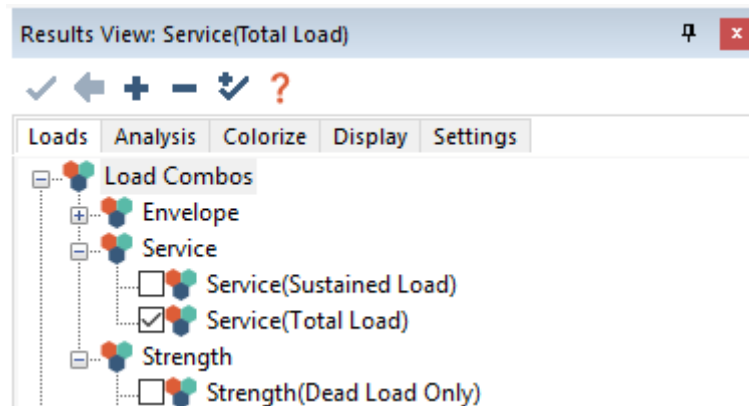

Figure 6.8-7 - Result Display Settings Dialogue Box
- For serviceability it is important to make a check for deflections in each direction. Select **Service (Total Load)** from the *Loads* tab of the *Results Browser* as shown in **Figure 6.8-7**. Change to the *Display* tab of the *Results Browser*. Set the *Maximum Span/Deflection Ratio. L/* value **240**. Change to the *Analysis* tab of the *Results Browser*. Expand the *Design Sections* → *Deformation* tree and select *Z-Translation*.